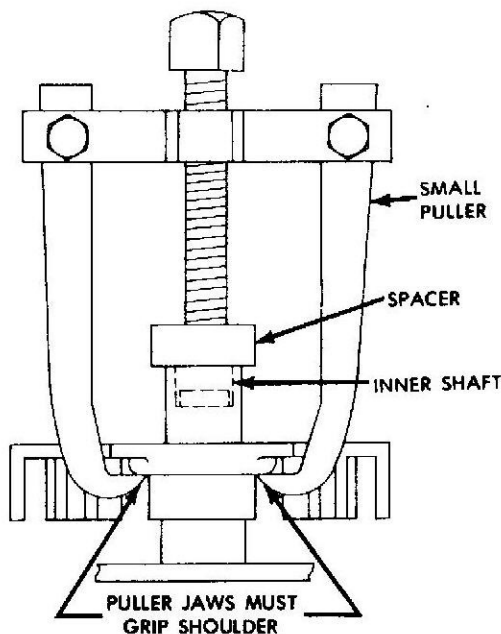

Fig. 1 Trigger Wheel Removal (OVER)
- (1) Remove distributor cap, rotor and dust shield.
- (2) Remove trigger wheel using a small gear puller (fig. 1). Position a thick flat washer or nut as a spacer, between puller screw and inner shaft. Do not position puller screw directly on inner shaft.